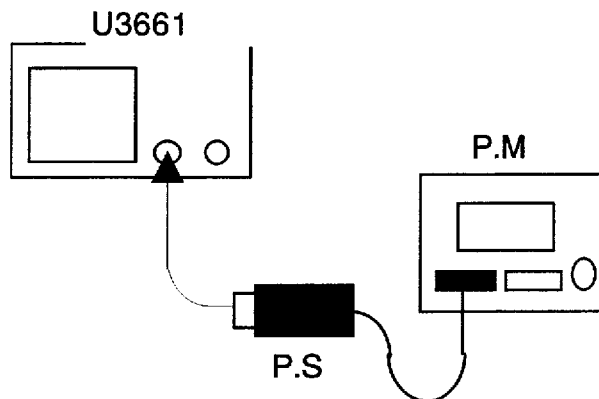

Figure 3-22 Setup of Output Level Flatness Test.
2. Connect equipment as shown in Figure 3-22.